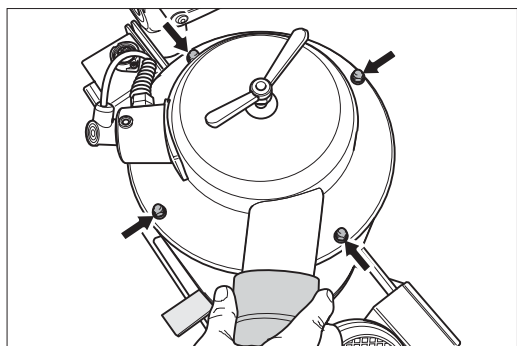
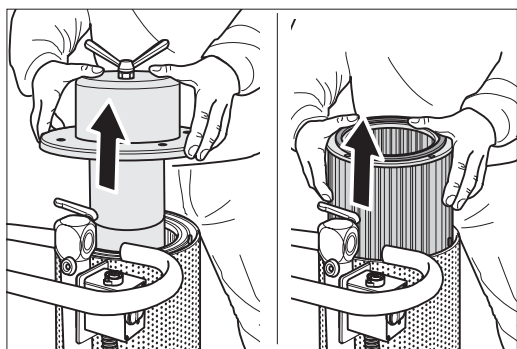

Fig. 27 Then remove the four cap nuts on the cover of the separator.
Fig. 28 Remove the cover and remove the filter insert.
- 6 Remove the four cap nuts on the cover of the separator (Fig. 27) and lift off the cover of the dust separation system in one straight move (Fig. 28).
- 7 Lift the filter insert out of the filter casing (Fig. 28). Clean it or replace it by a new one. Only use original LÄGLER filter cartridges (order no. in the *Section 11, Spare parts*).